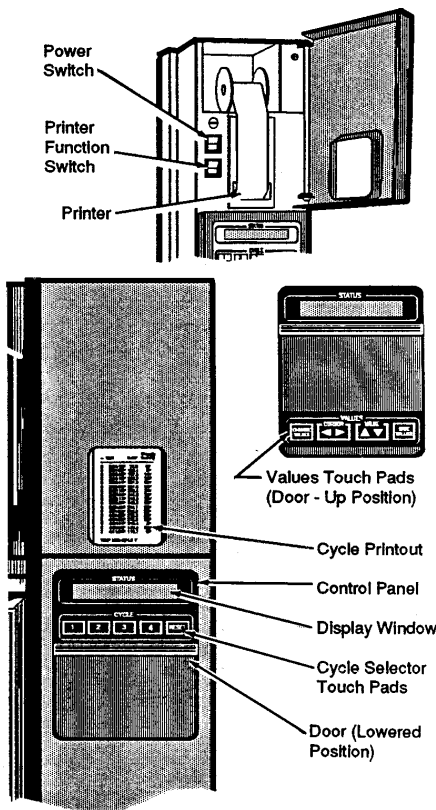

Figure 4-5. Turn Power On
4.5 Automatic Operation: Prevacuum Cycle (Wrapped and Unwrapped Goods) (See Figure 4-5)